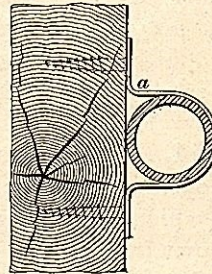

FIG. 33
**51.** Wrought-iron pipes may be fastened in place by common drive hooks, but where a good appearance is desired, they should be fastened with bands, which are secured to the walls by screws, as shown in Fig. 33. The band, or strap, *a* should be made of wrought iron tinned.